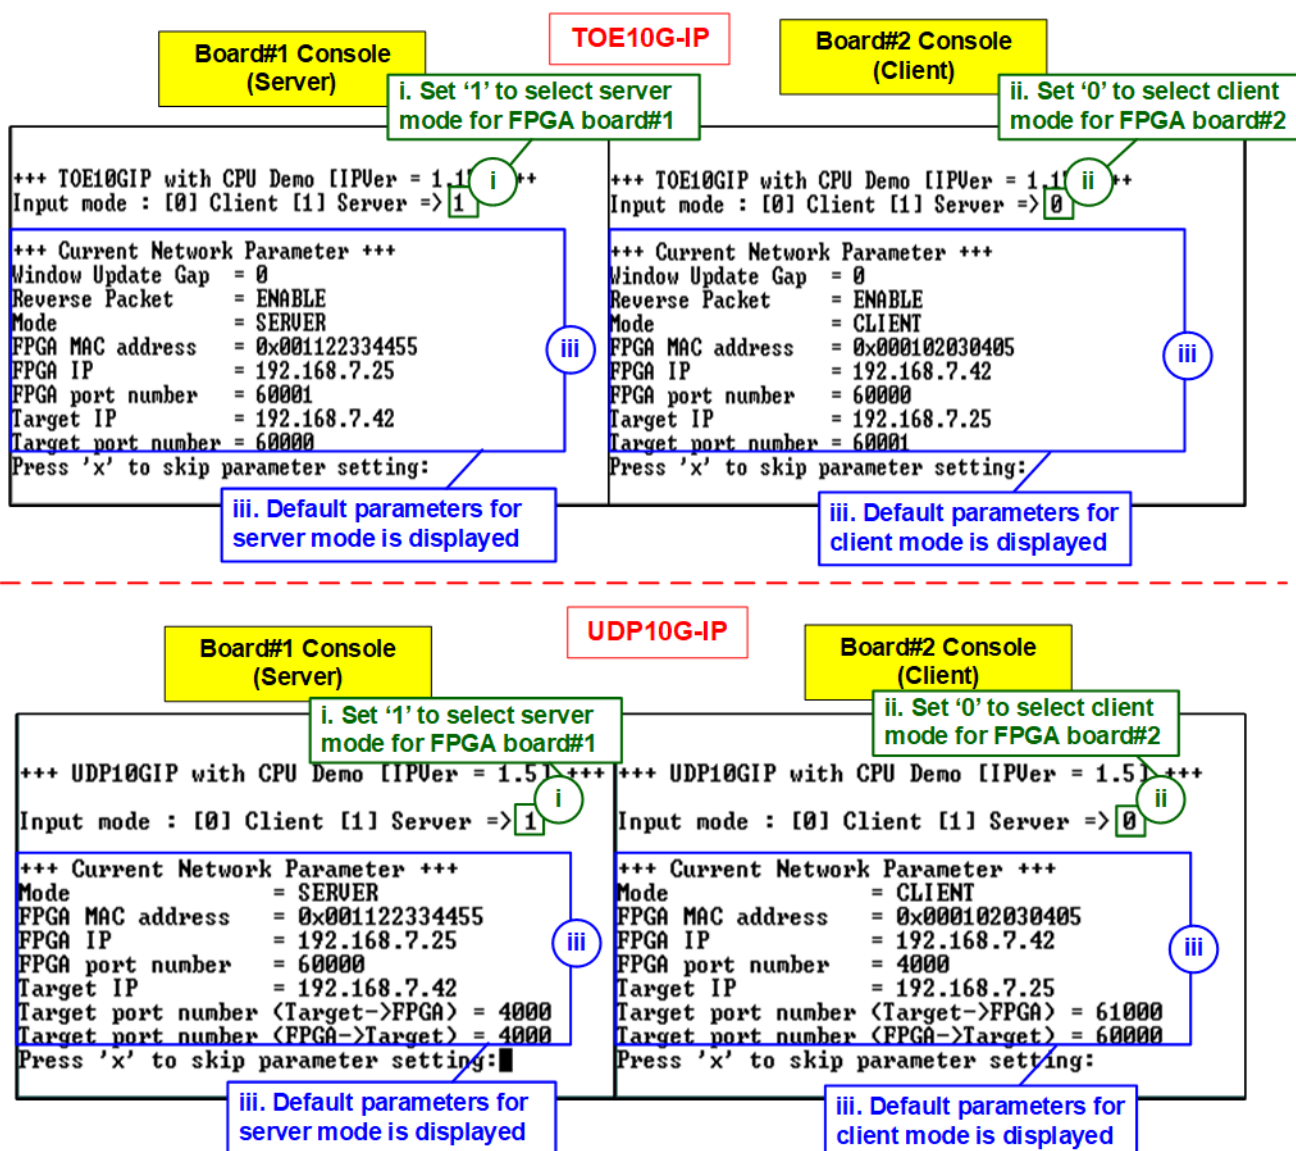

Figure 2-2 Input mode
- iii) Default parameters for server or client are displayed on the console, as shown in Figure 2-2.